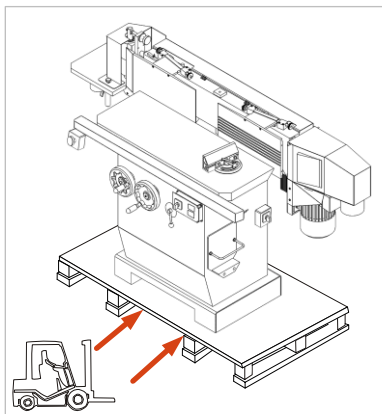

Figure 6: Unload with Forklift truck
- Drive the forks of the forklift truck centrally between the pallet timbers and feed the forks as shown in ⇒ Figure 6.